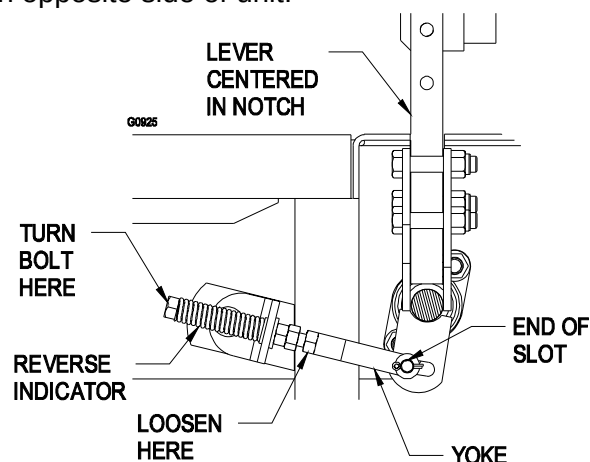

FIGURE 13
- Begin with either the left or right motion control lever. Move lever to the neutral position and pull lever back until the clevis pin (on arm below pivot shaft) contacts the end of the slot (just beginning to put pressure on spring), See Figure 13.